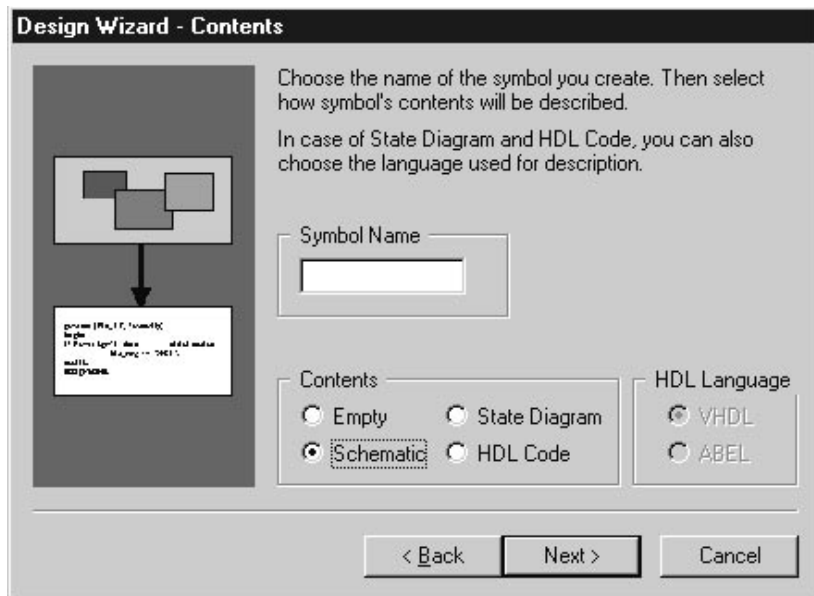

Figure 4-10. Design Wizard - Contents.
To renumber the entire design select the **Annotate** option in the **Options** menu. In the new **Annotation** window(Figure 4-10) select the **Whole Project**, **Hierarchy Descent** and **All** (References) options.
- ☐ In the **Contents** window shown in figure 4-10 enter symbol name and select *Schematic* as the contents of the macro. (*State Diagram* or *HDL Code* can also be chosen; selecting *Empty* means that macro contents type will be picked later).